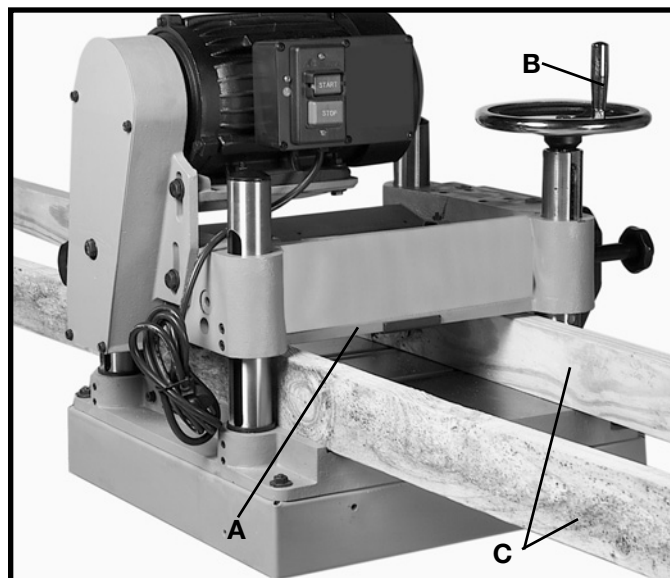

Fig. 10
2. Raise the cuttinghead (A) Fig. 10, by turning the raising and lowering handwheel (B) clockwise, and insert two 6 or 8 foot long 2 x 4's (C) between the cuttinghead and table as shown. Lower the cuttinghead just until it touches the 2 x 4 's (C) Fig. 10, so that they are positioned solidly between the table and cuttinghead. Then with two people on each end of the 2 x 4's, move the machine to its desired location.